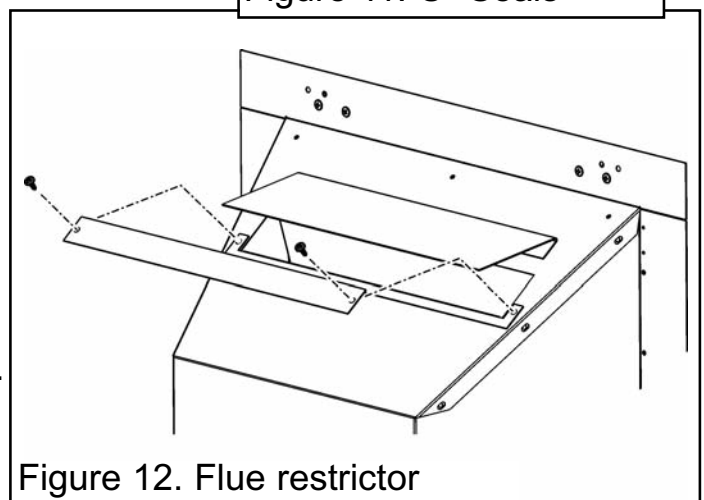

Figure 12. Flue restrictor
4. This appliance is supplied with a flue restrictor for use where the flue draught is excessive. Generally we recommend the restrictor is NOT fitted where a precast flue, metal flue box or a flue liner is used, however, certain flues may work sufficiently to warrant its use. There may however, be circumstances where fitting the restrictor causes the fire to fail the spillage test. In such cases the restrictor will have to be removed. After removal conduct the spillage check again. The restrictor is packed loose with the appliance and is secured with the two screws used for the down draft baffle. Remove the two screws from the rear of the appliance (See figure 12). DO NOT remove the down draft baffle. Locate the flue restrictor. Secure the down draft baffle and restrictor plate in place using the two screws removed previously (See figure 12).